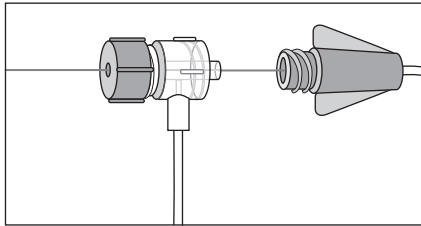

Figure 27
- Slowly remove the Tuohy-Borst adapter and Stylet as a unit (refer to Figure 27). Do not remove the Stylet through the Tuohy-Borst adapter body.